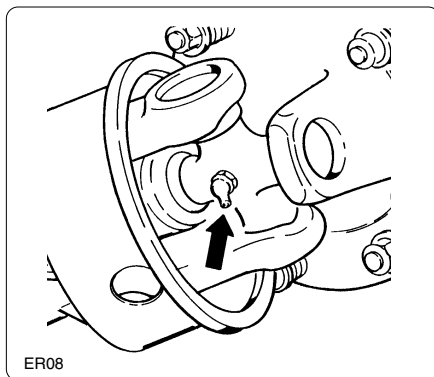

fig. 7.4.2
- Check the condition of the driveline and grease the spiders (fig. 7.4.2).